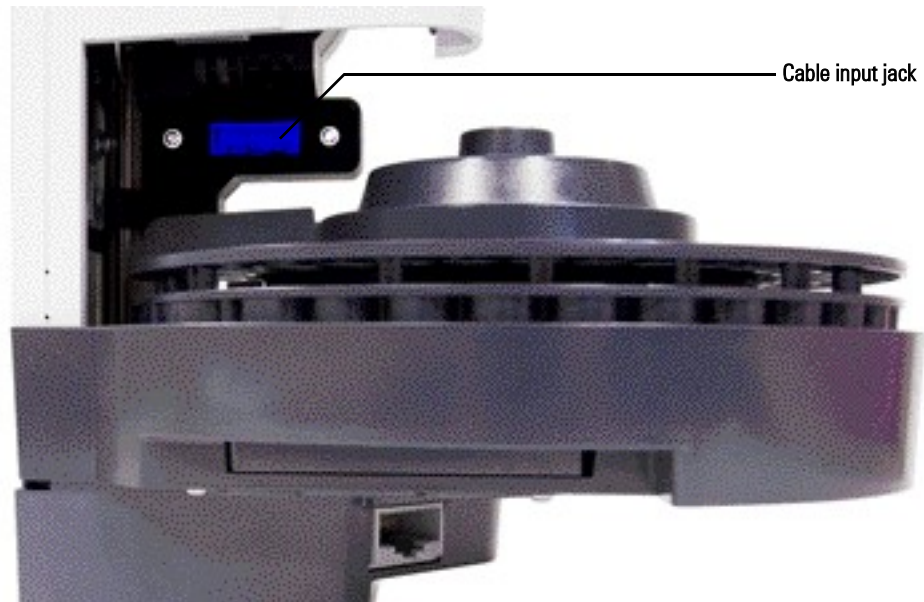

Figure 68 Syringe carriage cable jack
- 13 Slide the syringe carriage completely down until the syringe carriage cable jack is accessible below the ALS casing (Figure 68).